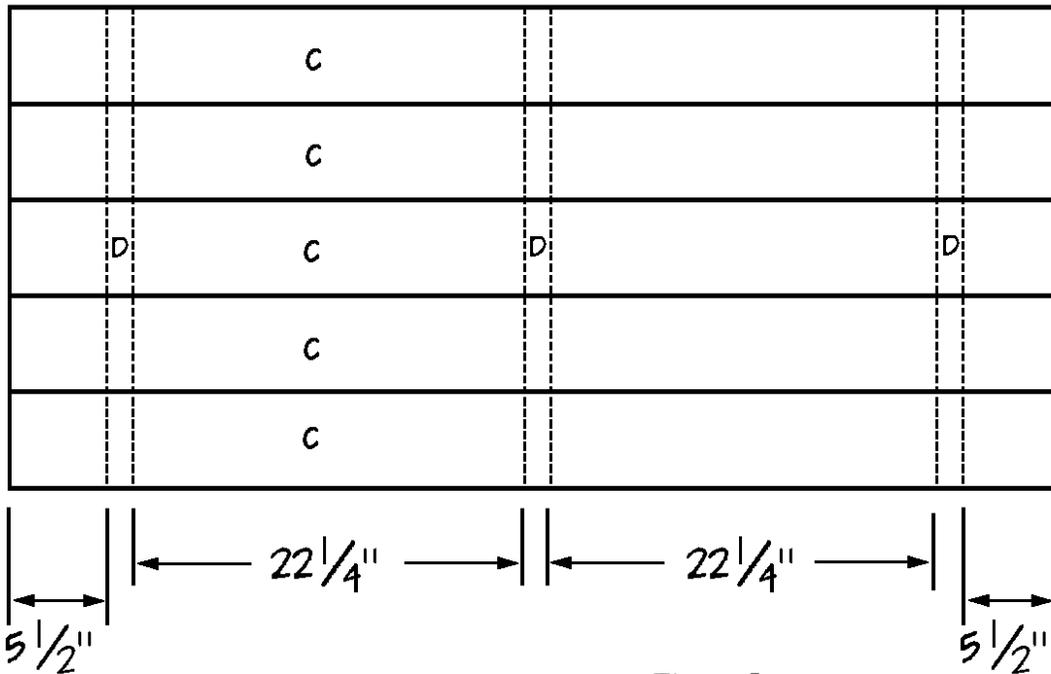

Figure 5
4. Position three Top Supports (D) on a level surface (trimmed edges down), parallel to each other and 22-1/4" apart. Place the five Tops (C) over the three Top Supports (D), as shown in *Figure 5*. Make certain that the assembly is square. Screw through the Tops (C) into each of the three Top Supports (D), using two 2-inch wood screws on each joint.